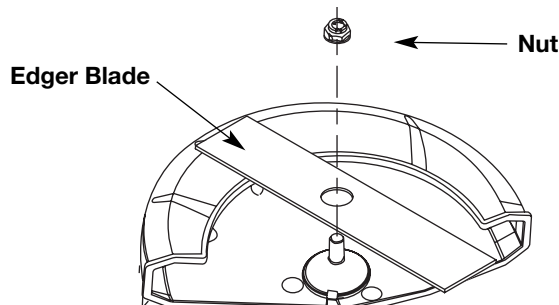

Fig. 16
4. Install the new blade and nut (Fig. 16).